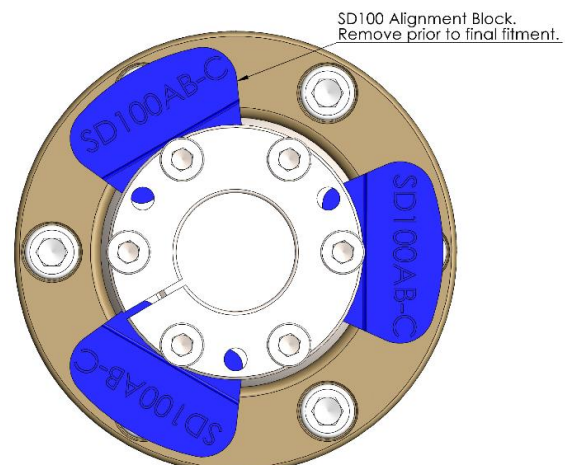
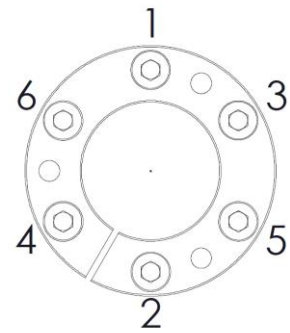

Fig 1. Alignment block
Fig 3. Tightening Sequence
- Insert the clamp unit into the central sphere and loosely tighten the M8 taper locking bolts (9) using an allen key in a crossed sequence (see fig 3). If alignment blocks are not being used (see fig 1), then go to step 8.
- Use the alignment blocks to hold the clamp unit parallel. Insert the blocks evenly spaced under the clamp unit as per fig 1, and gently tighten the taper locking bolts (9), to sufficiently hold the alignment blocks in place. Do not torque the taper locking bolts (9) until alignment is complete and the alignment blocks have been removed. Proceed with normal alignment and fixing methods with propeller shaft and gearbox, taking care not to exceed the maximum working angle when centering Sigmadrive to gearbox output flange. Please go to step 9.
- Once the SigmaDrive is aligned with the gearbox flange. Fit the M10 Nyloc nuts (13) and locking washer (12) to the M10 high tensile studs (11) and tighten firmly to a torque of **61Nm**.
- Tighten the M8 taper locking bolts (9) in the sequence indicated in fig 3 at least 3 times by hand using an allen key.
- Tighten the M8 taper locking bolts (9) in the sequence indicated in fig 3 with a torque wrench to 25Nm, then 30Nm and finally 38Nm. Only tighten to required torque once. Do not exceed 38Nm of torque, this could make it difficult to remove if it is overtightened.